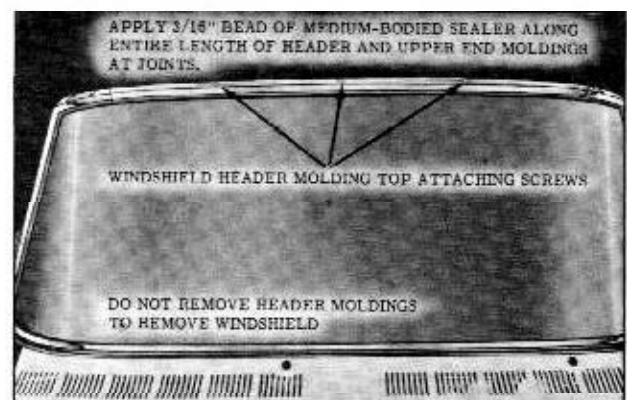

Fig. 15-6 Garnish Molding Sealing
5. To install, on "67" styles, apply a 3/16" bead of medium-bodied sealer the entire length of the windshield header before installing the header moldings. Apply additional sealer to the underside of end moldings to insure watertight seal to the junction of the center molding. (Fig. 15-6)